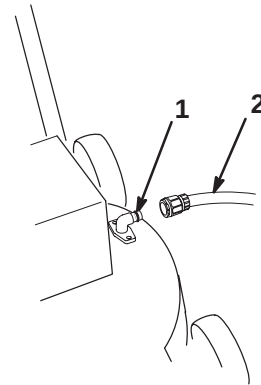

Figure 17
4. Attach the coupling to the lawn mower washout fitting (Fig. 17).